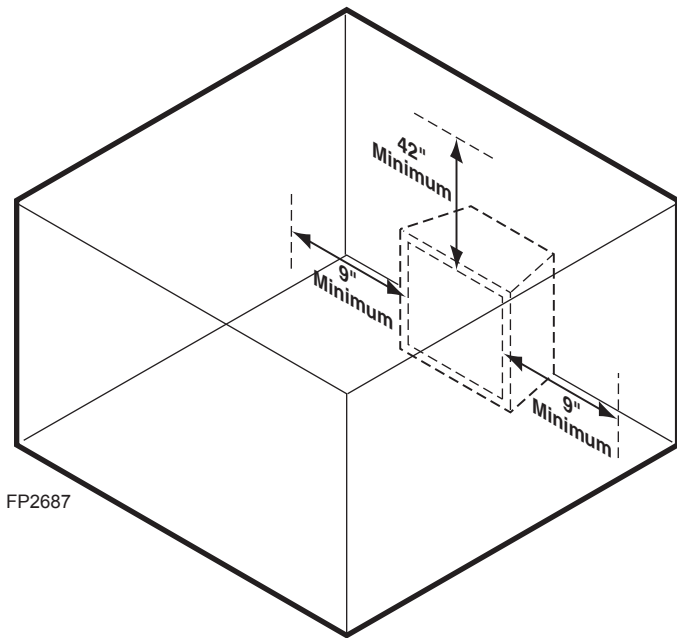

Figure 4 -
Ensure that minimum clearances shown in Figures 4 through 8 are maintained. Left and right clearances are determined when facing the front of the firebox.
- 1. Sidewall clearances:** The clearance from the inside of the appliance to any combustible wall should not be less than 9". *Figure 4*
- 2. Ceiling clearance:** The ceiling must be at least 42" from the top of the firebox opening. *Figure 4*